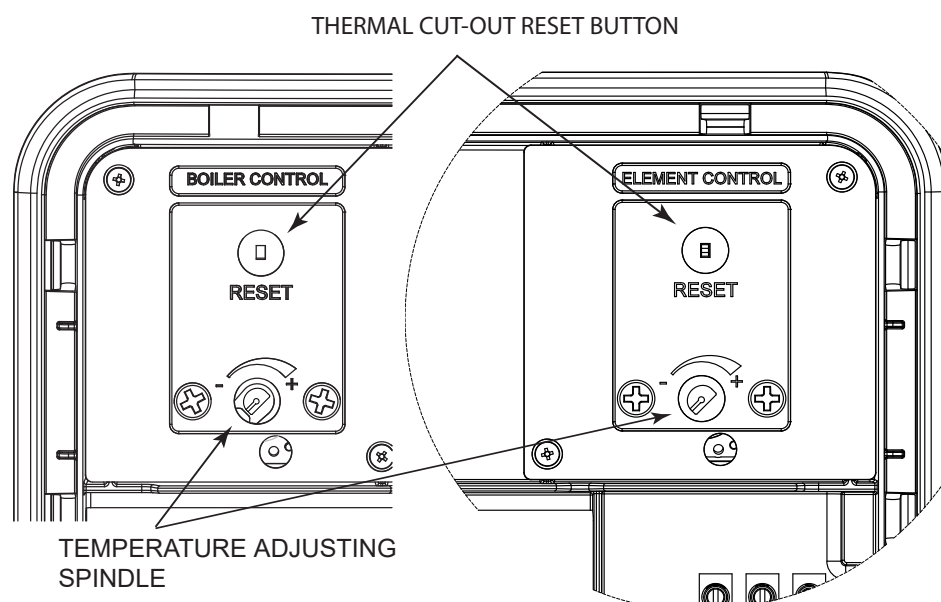

Figure 14: Thermostat adjustment
- ▶ The immersion heater thermostat is factory set at 60°C. Should this require adjustment see Fig 14 for details of how to adjust the temperature setting. Each immersion heater has its own individual thermostatic control. The thermostat incorporates a thermal cut-out that will switch off the immersion heater in the event of a thermostat failure. The thermal cut-out rest button position is also shown on Fig 14.
- ▶ The immersion heater and indirect control thermostats are factory set at 60°C. Should this require adjustment see Fig 14 for details of how to adjust the temperature setting. The immersion heater and indirect controls each has its own individual thermostatic control. The thermostats incorporate a thermal cut-out that will switch off in the event of a thermal at failure. The thermal cut-out button position is also shown on Fig 14.
- ▶ If necessary the temperature can be adjusted by inserting a flat bladed screwdriver in the adjustment spindle on front of the immersion heater (ELEMENT) control thermostat and rotating (see Fig. 14 page 20 for details of how to adjust). The adjustment represents a temperature range of 10°C to 70°C.
- ▶ If necessary the temperature can be adjusted by inserting a flat bladed screwdriver in the adjustment spindle on front of the indirect (BOILER) thermostat and rotating (see Fig. 14, page 20 for details of how to adjust). The adjustment represents a temperature range of 10°C to 70°C.
- ▶ Temperature adjustment is made by rotating the adjustment knob on the top of the thermostat. The adjustment represents a temperature range of 10°C to 70°C (see Fig 14, page 20 for method of adjustment).